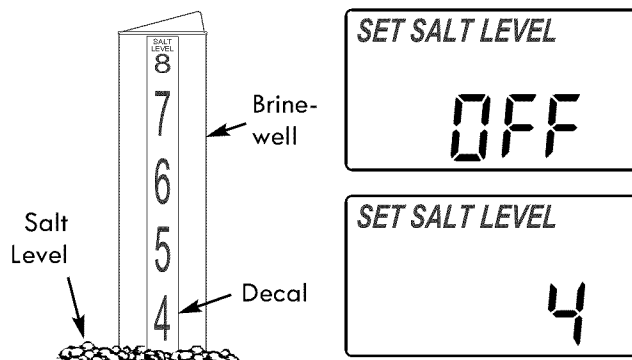

Figure 20
2. The yellow salt level decal, on the brinewell inside the tank, has numbers from 0 to 8 (see Fig. 20). Observe the highest number the leveled salt is at, or closest to.